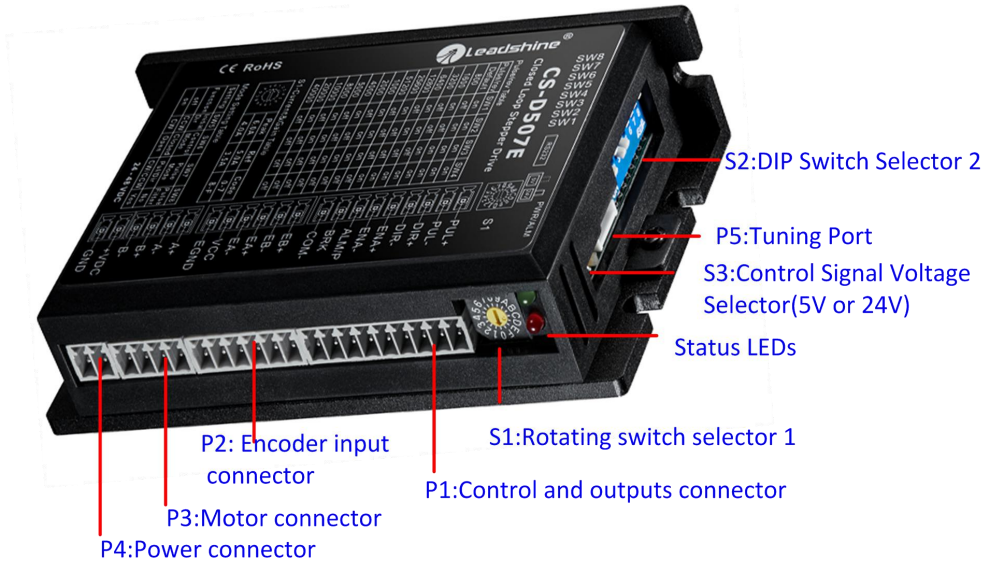

Figure 2: CS-D507E connectors
A CS-D507E closed loop stepper drive has 5 connection blocks from P1 to P5 (see figure 2).
The P1 connector in Figure 2 contains connections for control signals and 2 digital output.
(5) DIR signal requires advance PUL signal minimum 5 $\mu$ s in single pulse mode
(6) The factory setting of control signal voltage is 24V, must need to set S3 (figure 2) if it is 5V
**Notes:** (1) ENA signal is no connected as default;
(2) Control signal amplitude is 24 V as default. If it is 12 V, please set the S3 (Figure 2) selector switch to 5 V first, then connect 1K $\Omega$  resistor; If it is 5V, please set the S3 to 5V.
The P2 connector in Figure 2 is for encoder signal connection. Refer to the following table for details.
The P3 connector in Figure 2 is for motor connection. Refer to the following table for details.
The P4 connector in Figure 2 is for power supply connection. Refer to the following table for details.
The P5 connector in Figure 2 is a RS232 communication port for PC connection. Refer to the following pin definitions.